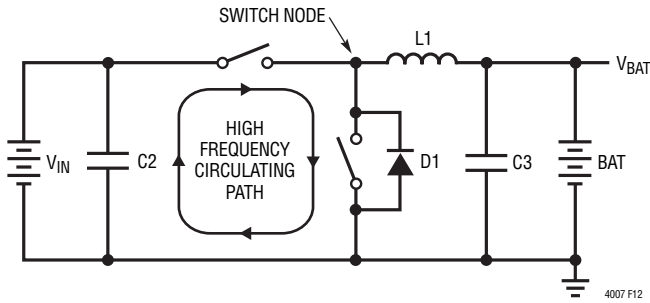

Figure 12. High Speed Switching Path
For maximum efficiency, the switch node rise and fall times should be minimized. To prevent magnetic and electrical field radiation and high frequency resonant problems, proper layout of the components connected to the IC is essential (see Figure 12). Here is a PCB layout priority list for proper layout. Layout the PCB using this specific order.
12. For best current programming accuracy provide a Kelvin connection from  $R_{SENSE}$  to CSP and BAT. See Figure 12 as an example.